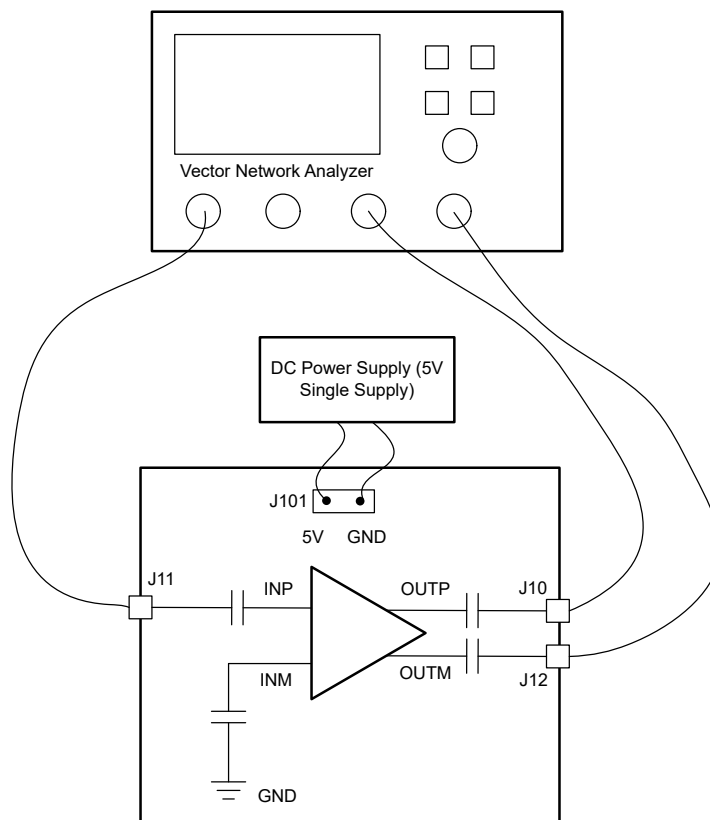

Figure 2-2. S-Parameter Test Setup
1. Figure 2-2 shows the S-parameter measurement, typically done using a vector network analyzer (VNA). For measuring the TRF1213EVM, use a 3-port VNA that can generate single-ended signals and receive differential signals at the input and output ports of EVM, respectively.